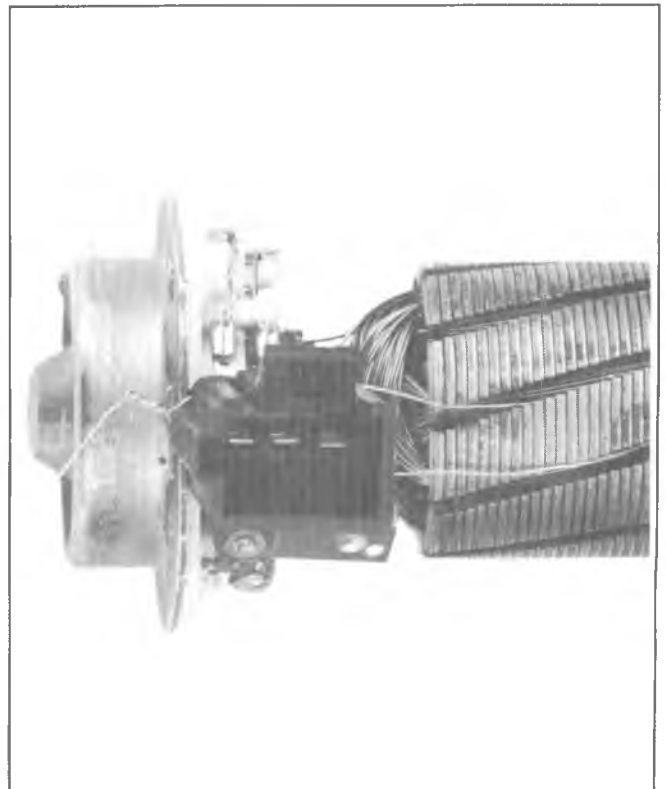

Fig. 8-34-End Cap Assembly
3. To maintain the end cap in its assembled position on armature shaft during re-assembly of armature in the wiper housing proceed as follows: Using small wire such as tag wire, tie armature to end cap assembly as shown in figure 8-34.